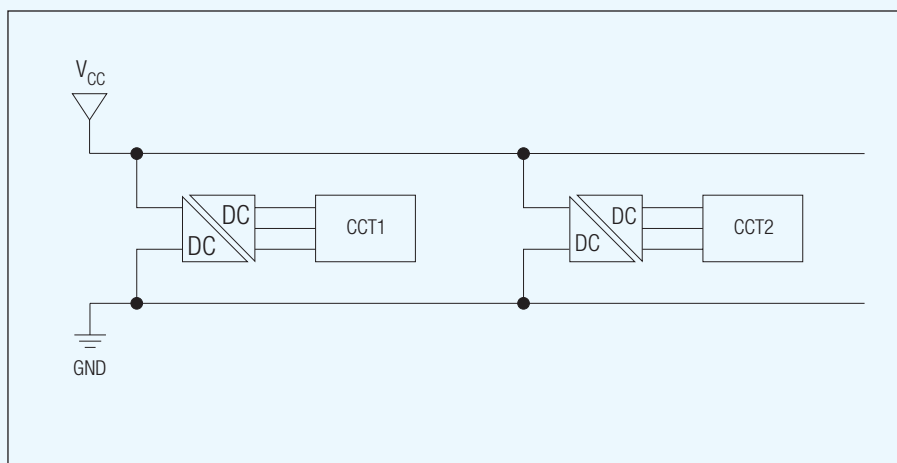

Figure 21 : Isolate Individual Systems
- Isolate individual systems where possible (especially analogue and digital systems) on both power supply and signal lines (see figure 21). An isolated DC-DC converter can provide a significant benefit to help reduce susceptibility and conducted emission due to the isolation of both power rail and ground from the system supply. Recom primarily uses toroidal transformers in our DC-DC converters and as such they have negligible radiated EMI, but all DC-DC converters are switching devices and as such will have a characteristic switching frequency, which may need some additional filtering.